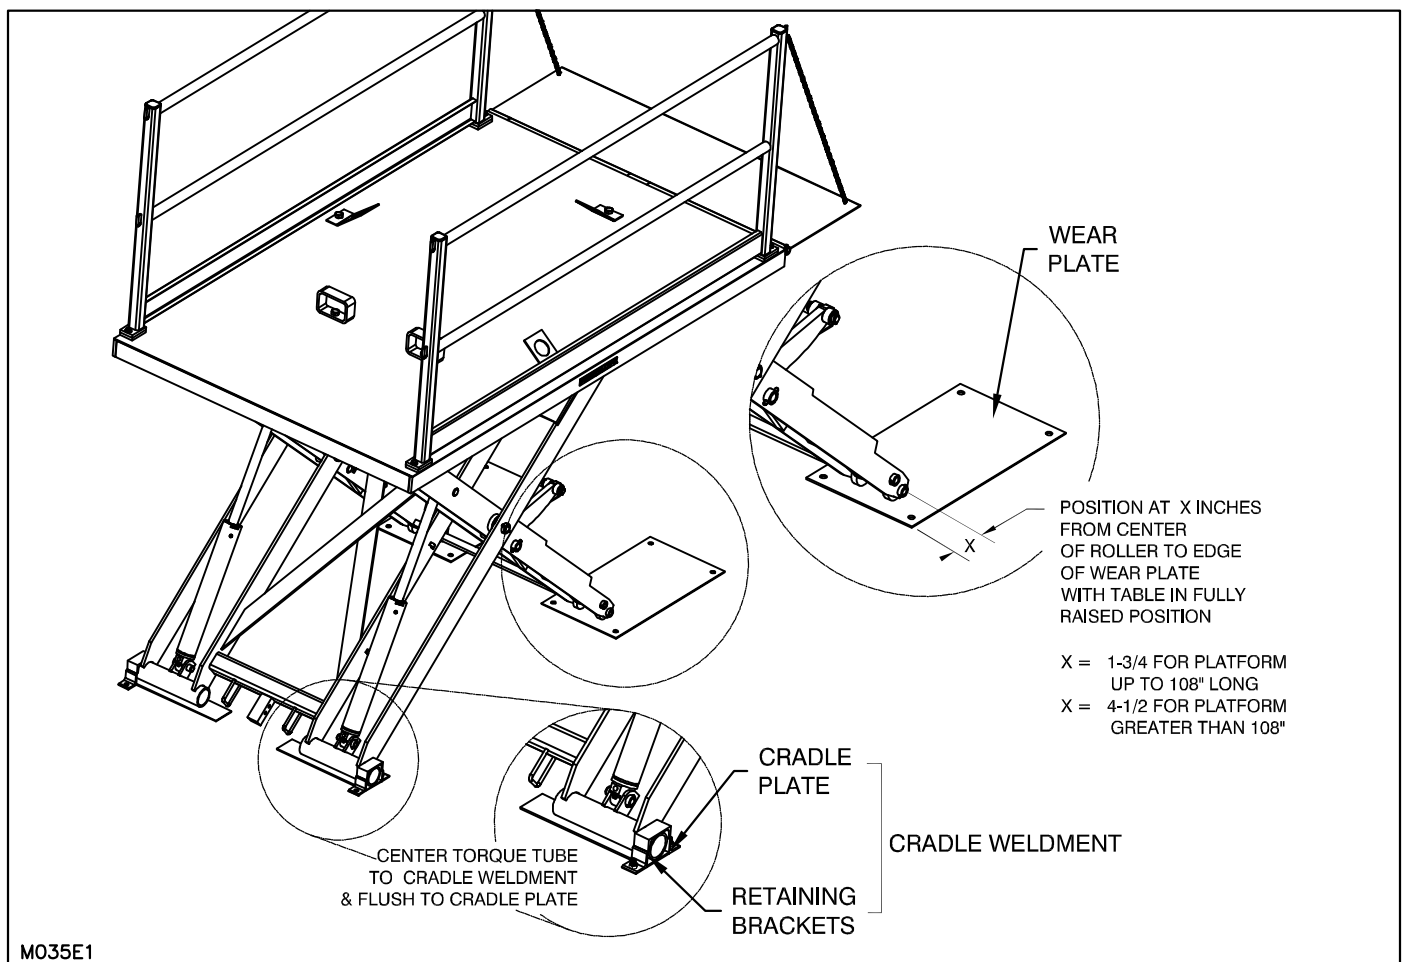

Figure 4: Position of Retaining Cradles and Wear Plates
11. Place the cradle weldment under the torque tube and place the wear plates under the leg rollers. (See "Figure 4: Position of Retaining Cradles and Wear Plates" on page 7.